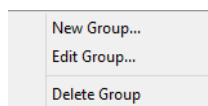

Figure C-14: Group Tab Menu with All Options Active
- Right-click on a group to display the Tab menu (Figure C-14).